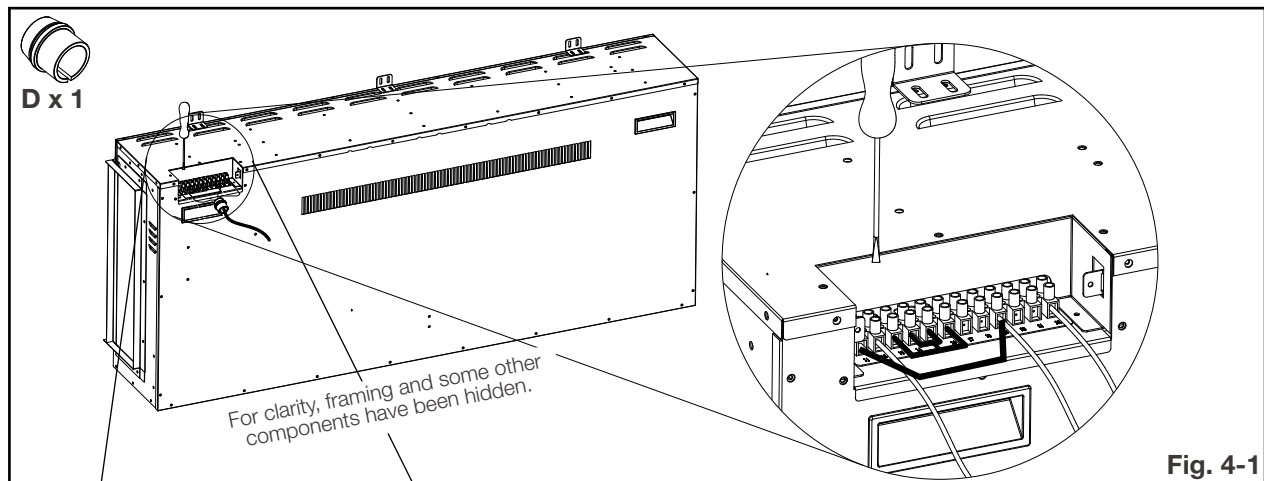

Fig. 4-1
4. Insert the wires from your home through the junction box cover plate with the strain relief (supplied) and locate the wires to the specified terminal block location based on desired voltage selection (**Fig. 4-1 or 4-3**).